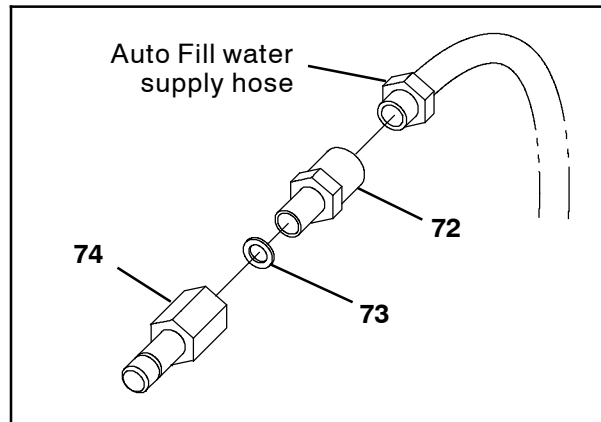

FIG. 11
79. Insert the rubber washer (73) into the brass fitting (74) and thread the brass straight fitting (72) into the brass fitting. (Fig. 11)
80. Thread the fitting assembly assembled in the previous step onto the Auto Fill water supply hose. (Fig. 11)